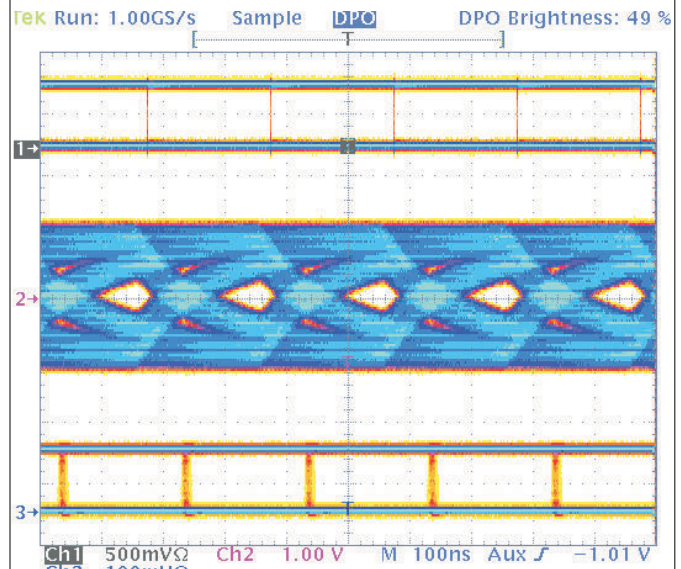

图 11-3. SN65HVD24 Receiver Performance at 5 Mbps Over 500 Meter Cable
**Figure 11-3** illustrates the benefits of integrated receiver equalization as implemented in the SN65HVD24 transceiver. In this test setup, a differential signal generator applied a signal voltage at one end of the cable, which was Belden 3105A twisted-pair shielded cable. The test signal was a pseudo-random bit stream (PRBS) of nonreturn-to-zero (NRZ) data. Channel 1 (top) shows the eye-pattern of the bit stream. Channel 2 (middle) shows the eye-pattern of the differential voltage at the receiver inputs (after the cable attenuation). Channel 3 (bottom) shows the output of the receiver.